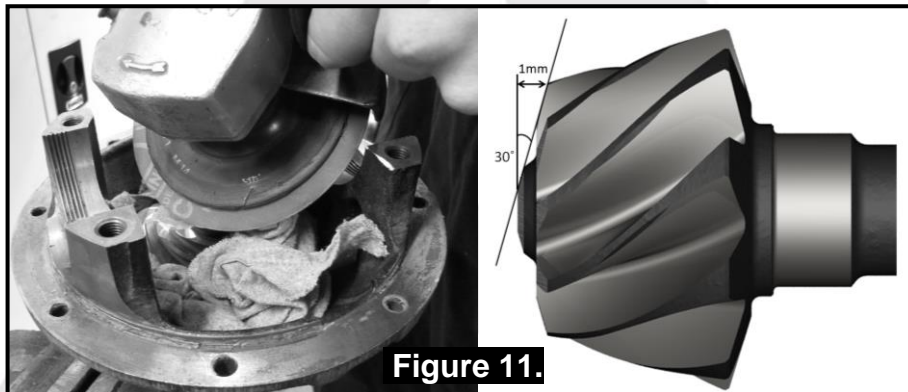

Figure 11.
- ☐ Use a 102mm [4.0"] or 127mm [5.0"] angle grinder and grind the ends of the pinion gear to a 30° angle at 1mm depth (Figure 11.).